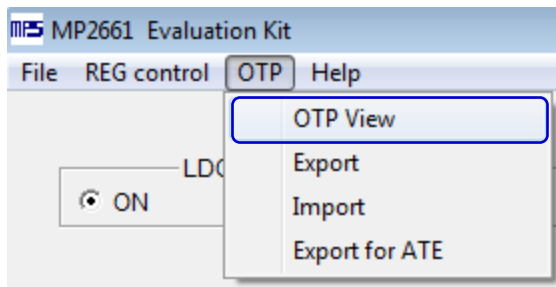

Figure 8: Select OTP
3. Select the "OTP View" in the tool bar. (see Figure 8)